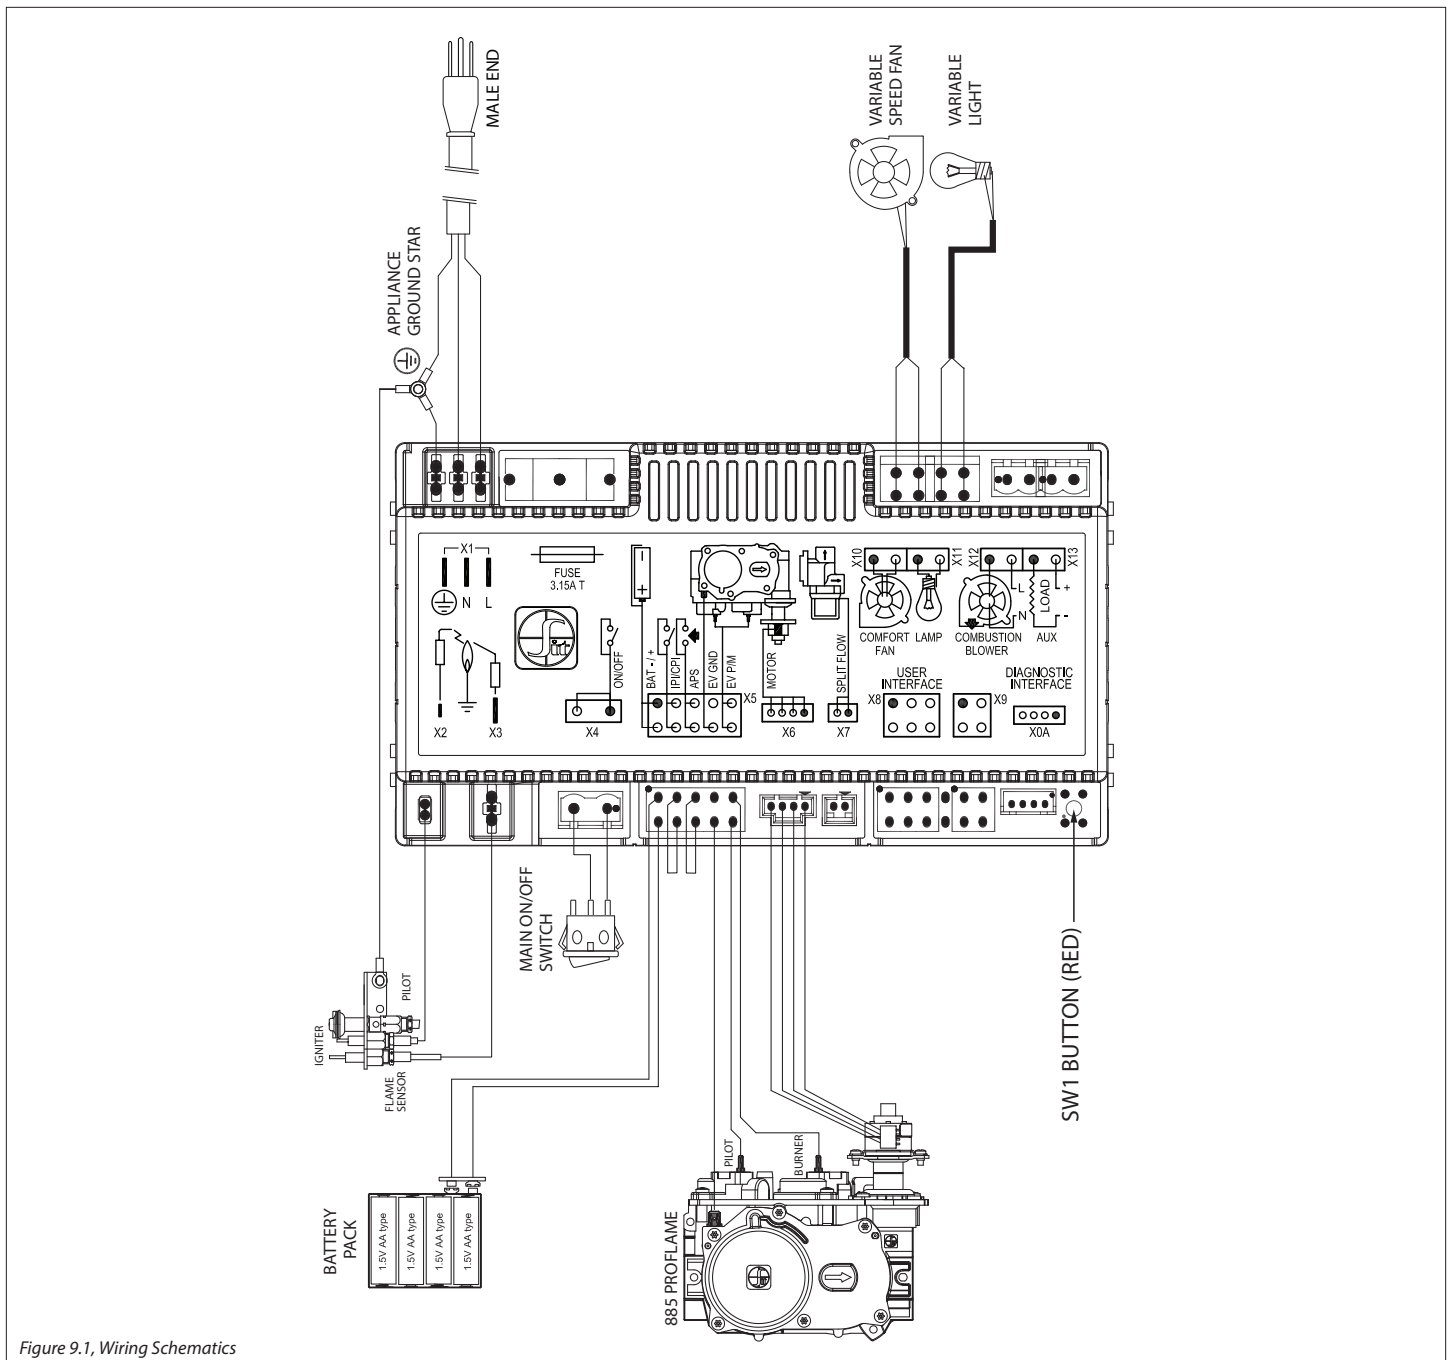

Figure 9.1, Wiring Schematics
4. Insert the fan through the opening and position on the studs at the back of the firebox. Secure with (2) flange nuts.
5. Connect the fan wires to the lead wires on the IFC module. See Figure 9.1 on the previous page.